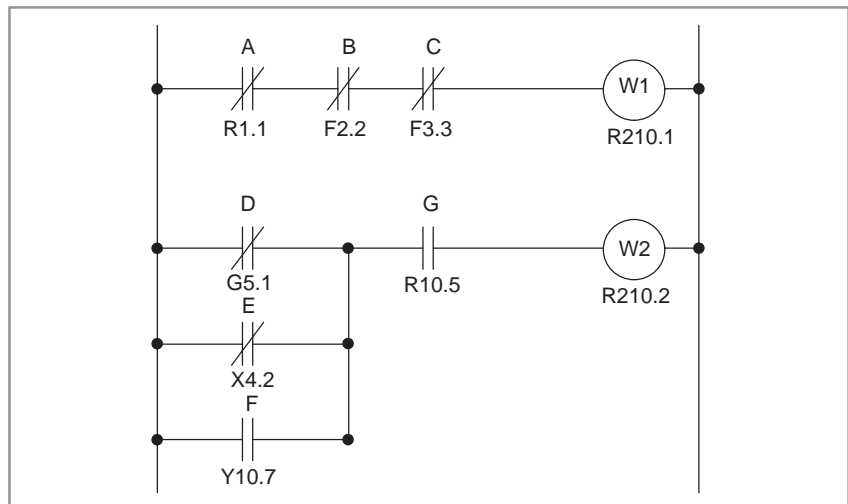

Fig. 4.1.2 Ladder diagram
(1) Format
- (2) Inverts the status of a signal at a specified address and set it in ST0.
- (3) Is used when beginning coding with contact B (\overline{A}). See the ladder diagram of Fig. 4.1.2 and entries in the coding sheet of Table 4.1.2 for an example of using the RD. NOT instruction.
- (4) The signal read by the RD. NOT instruction may be any contact B entered as the logical condition of one coil.
Table 4.1.2 Coding for Fig. 4.1.2